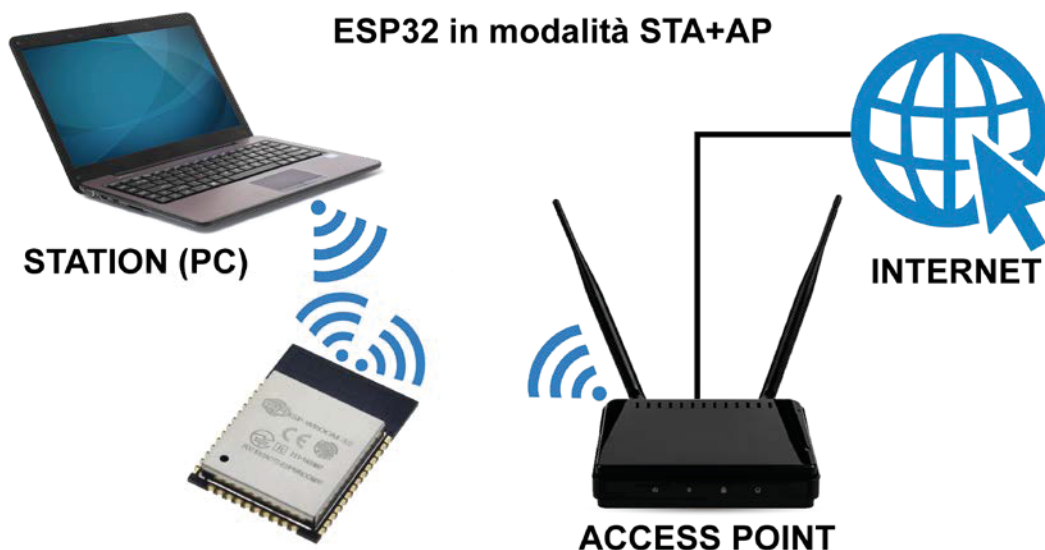

Fig. 3
- 3. Access Point + Station:** modalità ibrida (AP + Station) (**Fig. 3**).